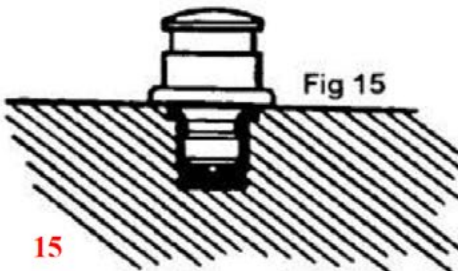

Fig 15
6. Place the male (stainless steel cap, nylon male, and centering sleeve) into each Substitute Female. The centering sleeve eliminates movement of the male during processing (**Fig 15**).
6. Place the male (stainless steel cap, nylon male, and centering sleeve) into each Substitute Female. The centering sleeve eliminates movement of the male during processing (Fig 15).